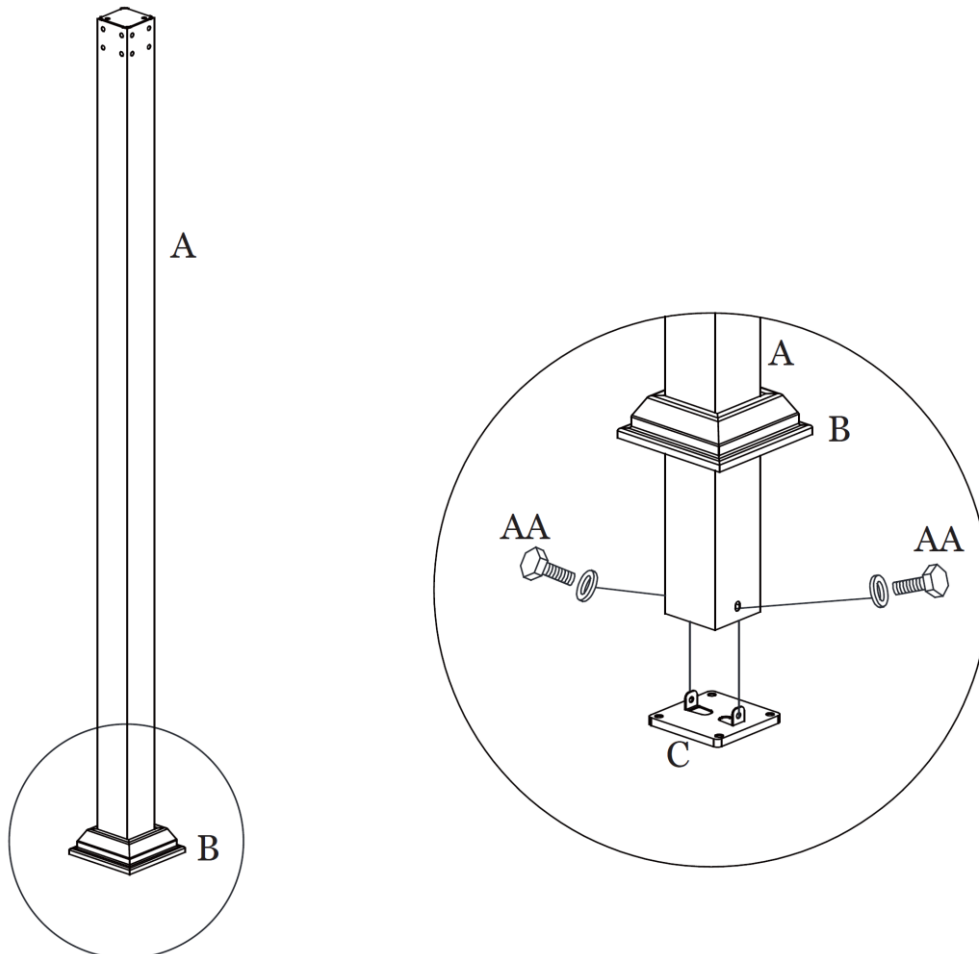

Figure 1
Step 1: Insert the Corner Posts (A) into the Base Covers (B). Attach the Base Plates (C) to the Corner Posts (A) using Bolts/Washers (AA). **Tighten all Bolts.** See Figure 1. Repeat for remaining Corner Posts (A).